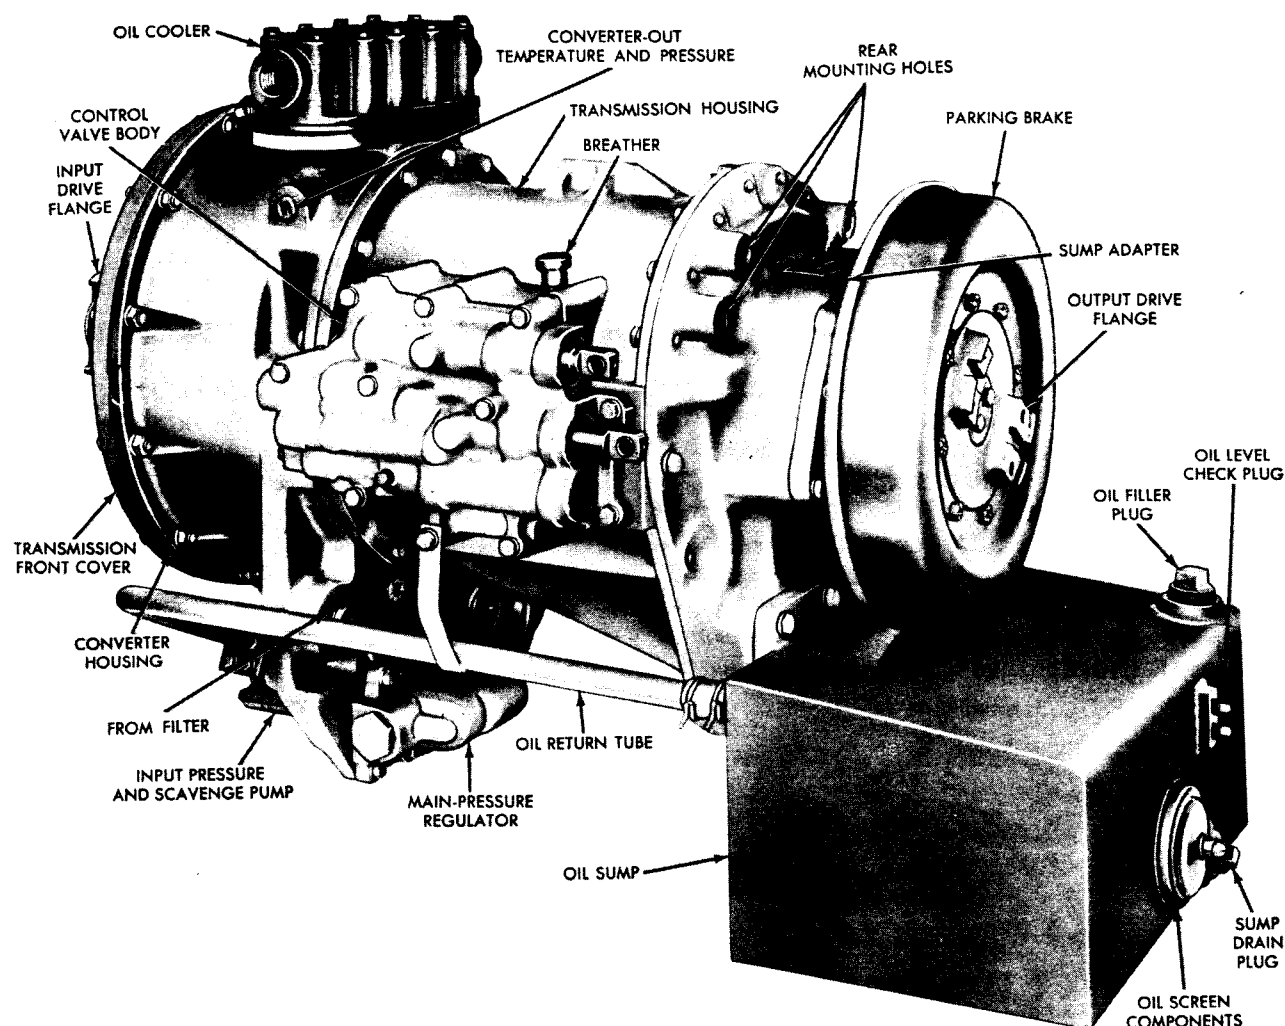

Fig. I-4. Model CRT 3321-3 or CRT 3331-3 transmission with remote-mount option—left-rear view
(3) Straight-through models have tapped bosses on the adapter housing for rear support (fig. I-4). Remote-mount models have a trunnion on the front cover, concentric with the input shaft for front support (fig. I-1). Direct-mount transmissions depend upon the engine flywheel housing for front support.